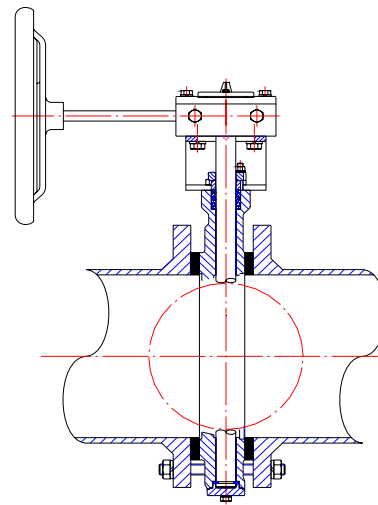

Fig.15
5.6. Make sure the valve to installed between flanges and concentrically with flanges, thus could prevent the disc damaged by the interfering with flange and pipeline (Fig.15)